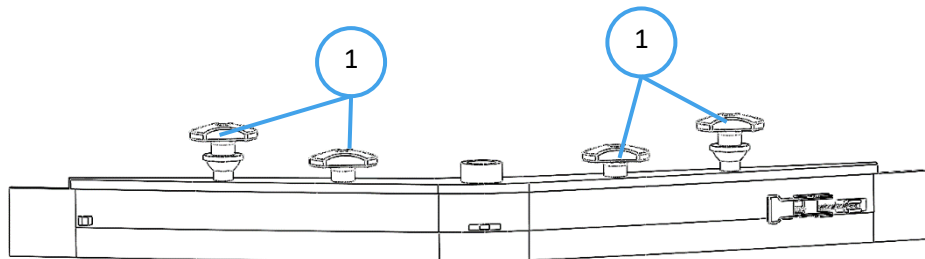

Fig. 1
1. Loosen the 4 blue knobs on the squeegee assemble shown (Fig. 1).